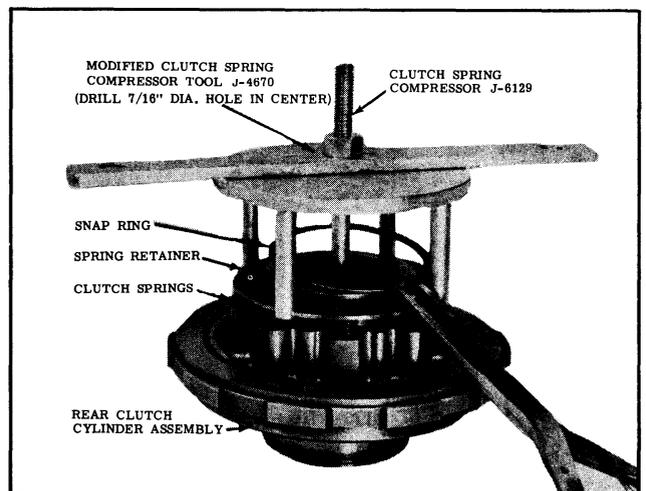

Fig. 3-63 Snap Ring Removal
- over Tool J-6129 and install modified Tool J-4670-B. (See Fig. 3-63)